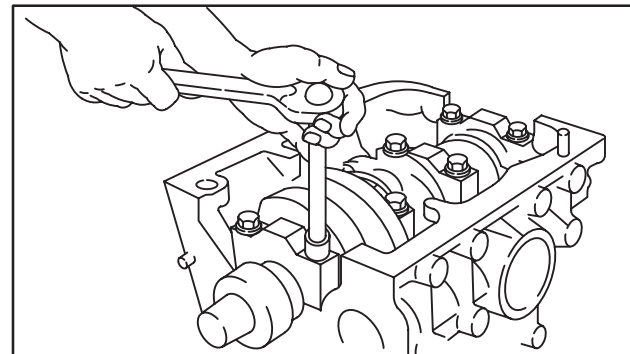

Fig. 7 – Removing Main Bearing Caps
10. Remove crankshaft main bearing caps, keeping main bearings with their respective caps, Fig. 7.